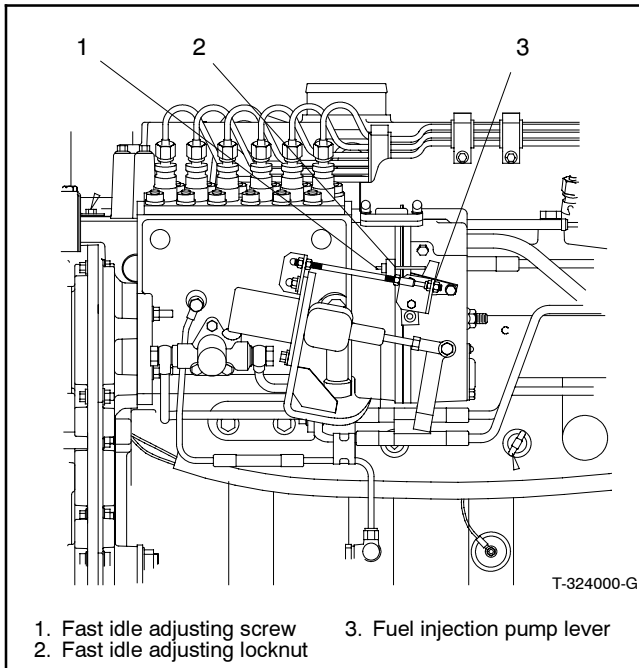

Figure 10-9 Governor Adjustments, Typical
2. Verify that injector pump lever is held in fast idle position. See Figure 10-9.